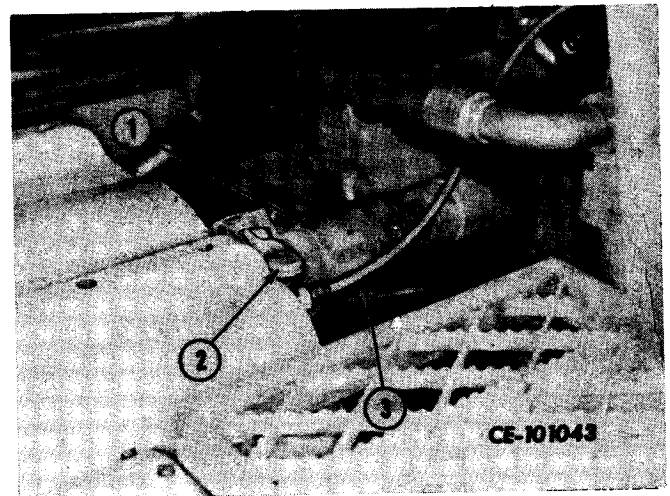

Figure 4-11
Disconnect the transmission-to-torque converter drive shaft (1, Fig. 4-11) from transmission. Disconnect line (3) from breather (2).
Attach chain hoist to lifting eyes and raise transmission until pins on mounting plates (4, Fig. 4-11) clear pin supports. Remove bolts and lock washers that secure mounting plates to transmission and remove plates.